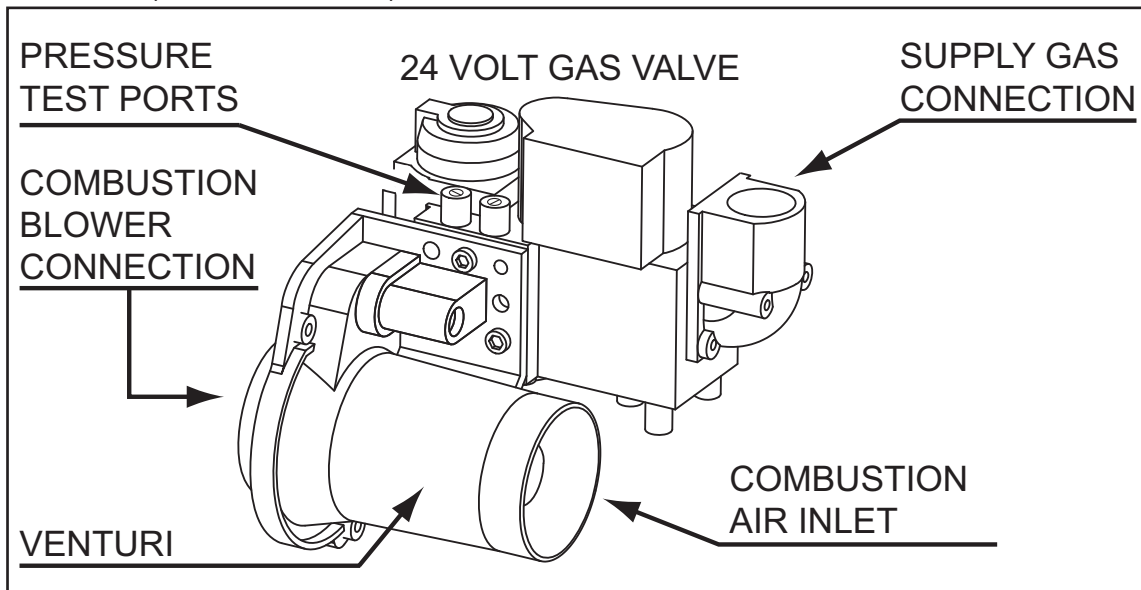
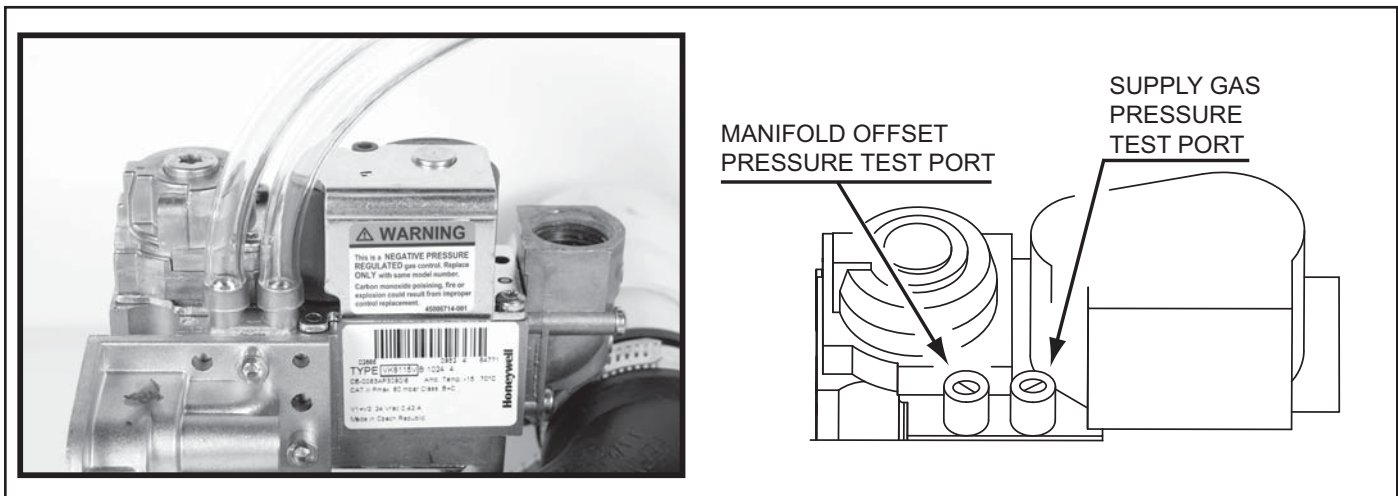

Figure 27
Figure 28
- The manifold offset gas pressure and the supply gas pressure can be measured at two pressure test ports on the water heater's 24 Volt Gas Valve, see Figure 27 below. The manifold offset pressure test port is closest to the Combustion Blower, see Figure 28 on page 26. There is a needle valve in each test port that is opened/closed with a small slotted screwdriver. Turn the needle valve counter-clockwise to open the test port valve and clockwise to close it.
4. Open the manifold offset and supply gas pressure test ports on the 24 Volt Gas Valve, see Figure 28 below. Turn the needle valve slotted heads 1/2 to 1 full turn counter-clockwise with a small slotted screwdriver to open the valves.
5. Attach a sensing tube from 2 digital manometers (see Tools Required on page 2) to the two gas pressure test ports on the valve body as shown in Figure 28 below.